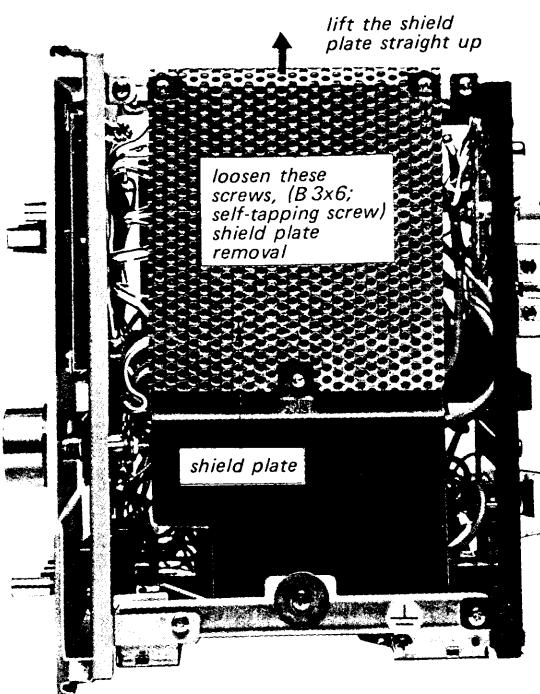

Fig. 2-6. Shield plate removal
2. Loosen the two screws securing the preamplifier board to its bracket shown in Fig. 2-6.
3. Remove the shield plate. This permit the power transistor removal shown in Fig. 2-6.